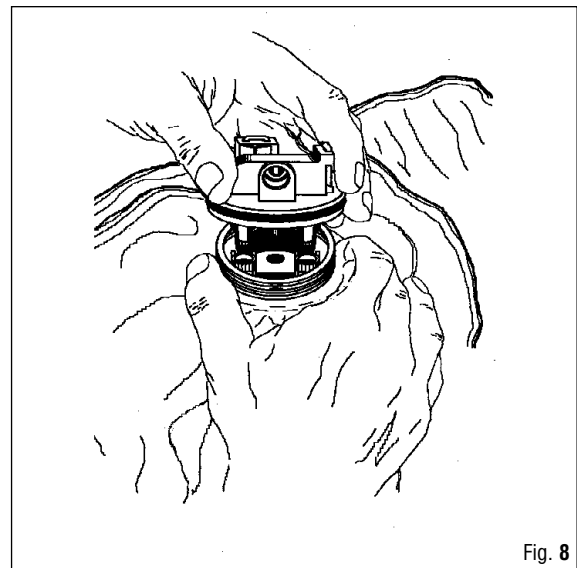

Fig. 8
33. Position the O-Ring (32) in the seat of the inflator body(1).
34. Correctly position the inflator body assembly (1) in the heat-sealed flange, inserting the O-Ring housing spindles (57) in the seats of the LP 1-way inserts (60). (Fig. 8)
35. Using a pin wrench (USAG type 282/58-62-65) if necessary, tighten the lower casing (12) to the heat-sealed flange.